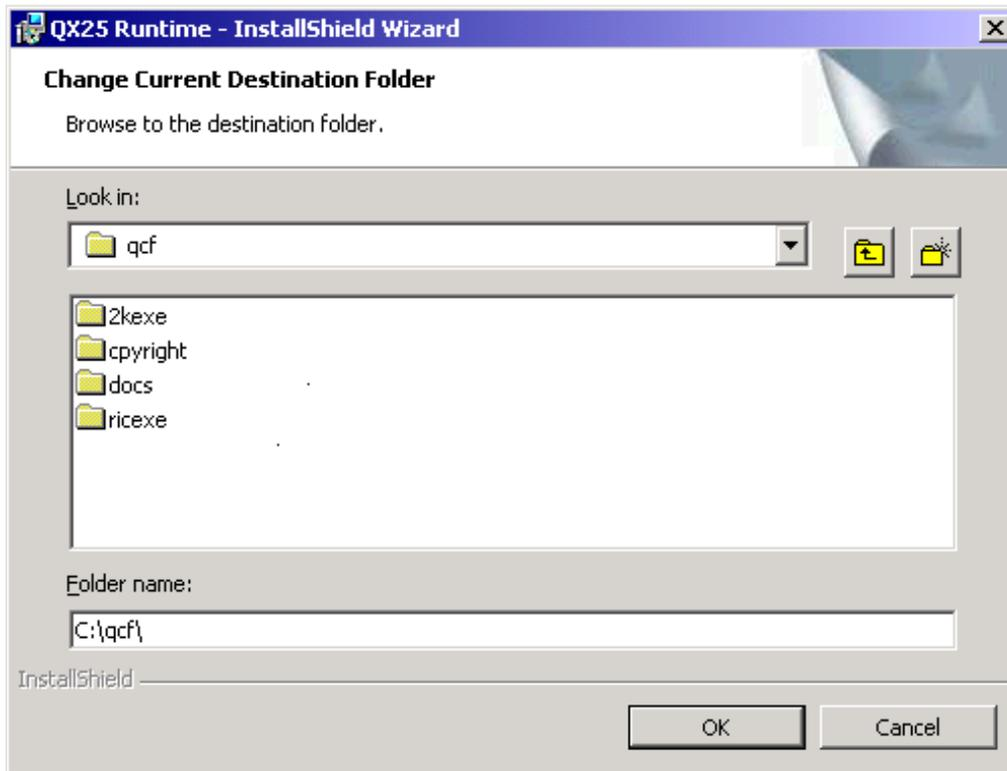

FIGURE 163. Changing destination folder
15. The window should look like Figure 163.